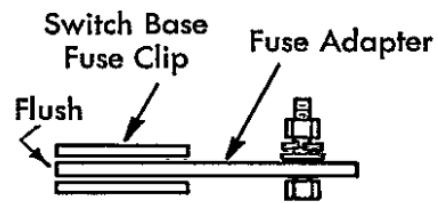

Fig. 4
4. Plug fuse adapter into fuse clip, making sure that end of adapter is flush with end of fuse clip and the bolt on the adapter is facing in the same direction as the bolts on the load block, Figure 4. Position clamp over fuse clip and tighten screws.